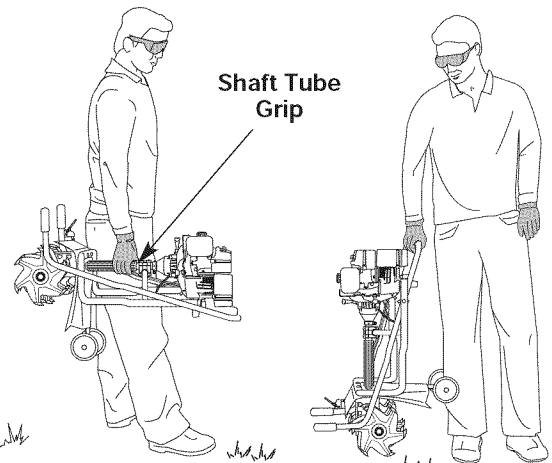

Fig. 21
4. Either carry the unit by the shaft tube grip or grasp the center of the handlebar to use it as a carrying handle (Fig. 21).